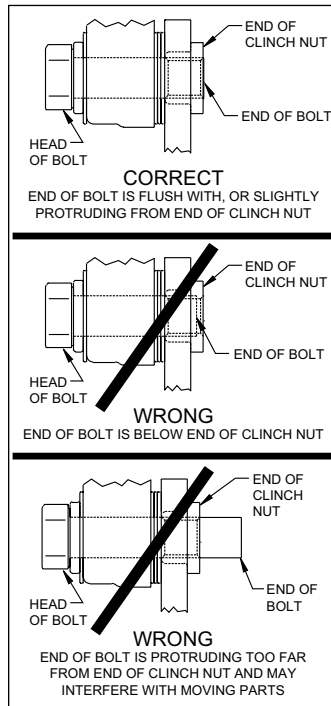

Figure 4. Clinch Nut Engagement Diagram
**CAUTION:** All mounting bolts must fully engage clinch nuts. Be sure to check that all bolts are either flush or protruding through flanged side of clinch nut after shimming, Figure 4.
**STEP 11** **NOTE:** *This kit contains distinct right and left hand calipers that must be mounted in a specific direction, as described below.* Lubricate the caliper mounting studs (23) with lightweight oil. Initially place two .030" thick shims (28) on each stud (23) between the caliper and the bracket, as shown in Figure 1 and Photo 10. Mount the caliper (27) onto the bracket (22) using lock nuts (29) and washers (30), Figure 1. Temporarily tighten the lock nuts. Ensure that the caliper is mounted so the largest pistons are at the rotor exit end of the caliper, in relation to the forward rotation of the rotor. View the rotor through the top opening of the caliper. The rotor should be centered in the caliper, Photo 11. If not, adjust by adding or subtracting shims (26) on bolts (24) between the radial mount caliper bracket (22) and the bracket assembly (1). Always use the same amount of shims on each of the two mounting bolts. **NOTE:** *The end of each bolt (24) must be flush with or slightly protruding from the head of the clinch nut of bracket assembly as shown in Figure 4.* If necessary, place spare shims between washer (25) and radial mount caliper bracket (22) to achieve the proper clinch nut engagement. Once the caliper alignment is correct, remove the bracket mounting bolts (24) one at a time, apply red *Loctite*® 271 to the threads, and torque to value shown in Figure 1.
**STEP 12** Remove the caliper (27), then remove the two pad retaining pins from the caliper by carefully popping out the pin retaining clips and sliding out the pins. Insert the brake pads (31) into the caliper from the bottom with the friction material facing the